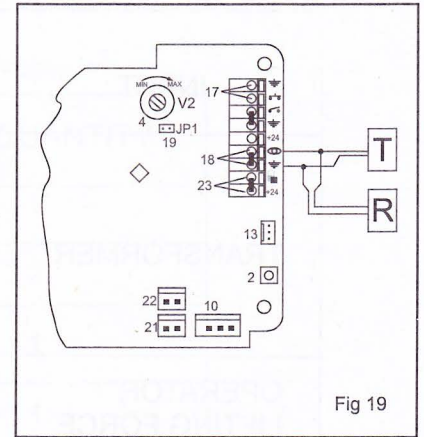

Fig 19
13.2 Connect the beam device into the outlet (18) in Fig 19, while disconnecting the existing connection in the outlet 18.